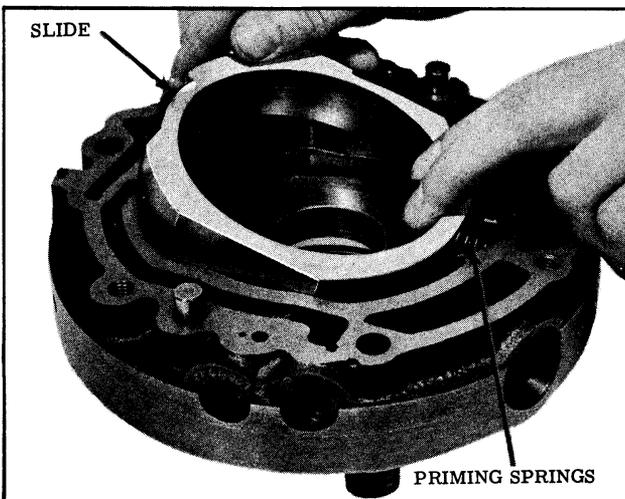

Fig. 3-104 Installing Front Pump Slide
6. Compress priming springs with the slide and allow slide to drop into the pump body. (See Fig. 3-104)